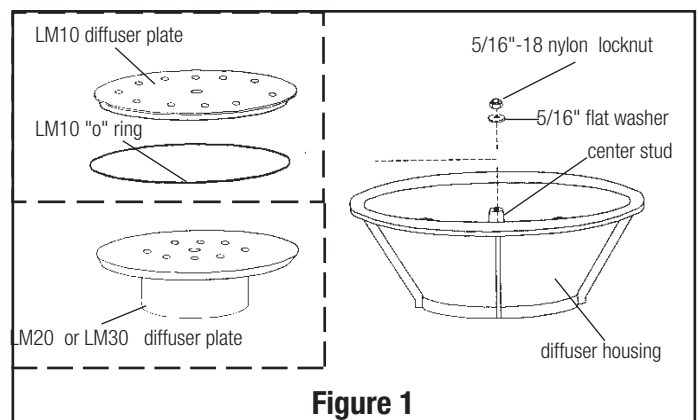

Figure 1
See Figure 1.
2. Attach the diffuser housing to the center stud on the manifold with a locknut and washer. See Figure 1, pg. 1.